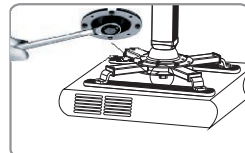

Figure 12
1. Loosen the screws of SAP support bar assembly⑥ via the spanned; adjust the projector to your desired position and fasten it. Figure 12